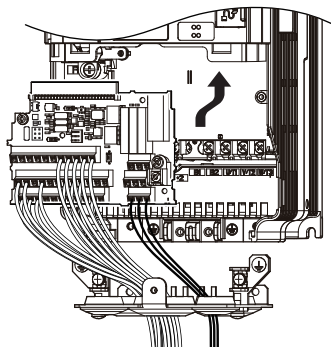

Figure 7.71 Install the Terminal Board
- After wiring the main circuit, connect the terminal block to the drive as shown in Figure 7.71. Use the installation screw (M3: 0.49 - 0.73 N·m) to fasten the terminal block into place.